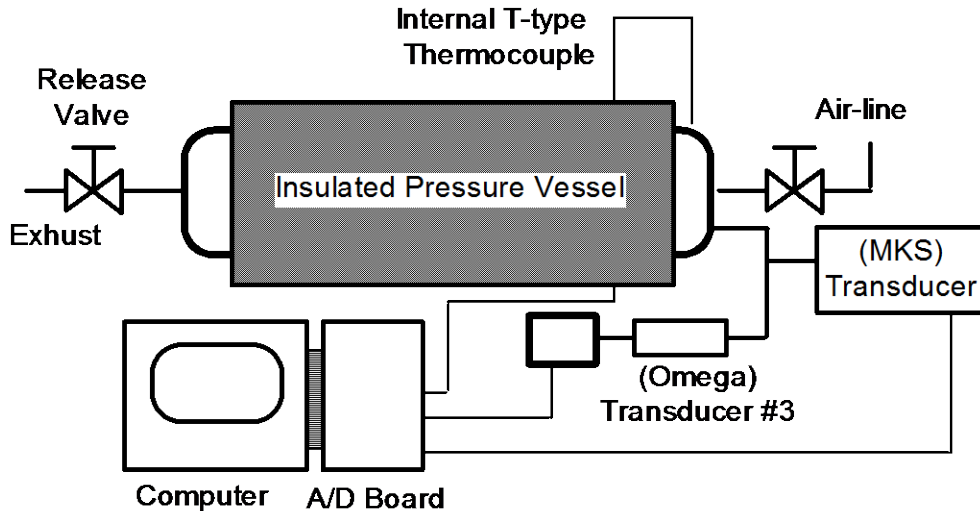

Figure 3 Schematic diagram for pressure discharge experiment
3. Draw a diagram of the calibration system setup in your logbook. A schematic drawing of the most important components is shown in Fig. 3. Close the Release Valve and Main Control Valve while opening the other two valves. **Confirm that the compressed air line at the wall is open; open if closed.** Carefully pressurize the system using the Main Control Valve to approximately 80 psia. **Do not adjust the pressure regulator.** Feel free to experiment with the operation of the valves on the apparatus. The TA will assist you if necessary. Notice that when the Tank Valve is closed, the tank will be isolated from the line reading Bourdon tube pressure gauge, and then only the Omega absolute pressure transducer and MKS Baratron pressure transducer will sense the tank pressure. You will calibrate and run the experiments with the Tank Valve closed **after pressurizing** it using the Main Control Valve.